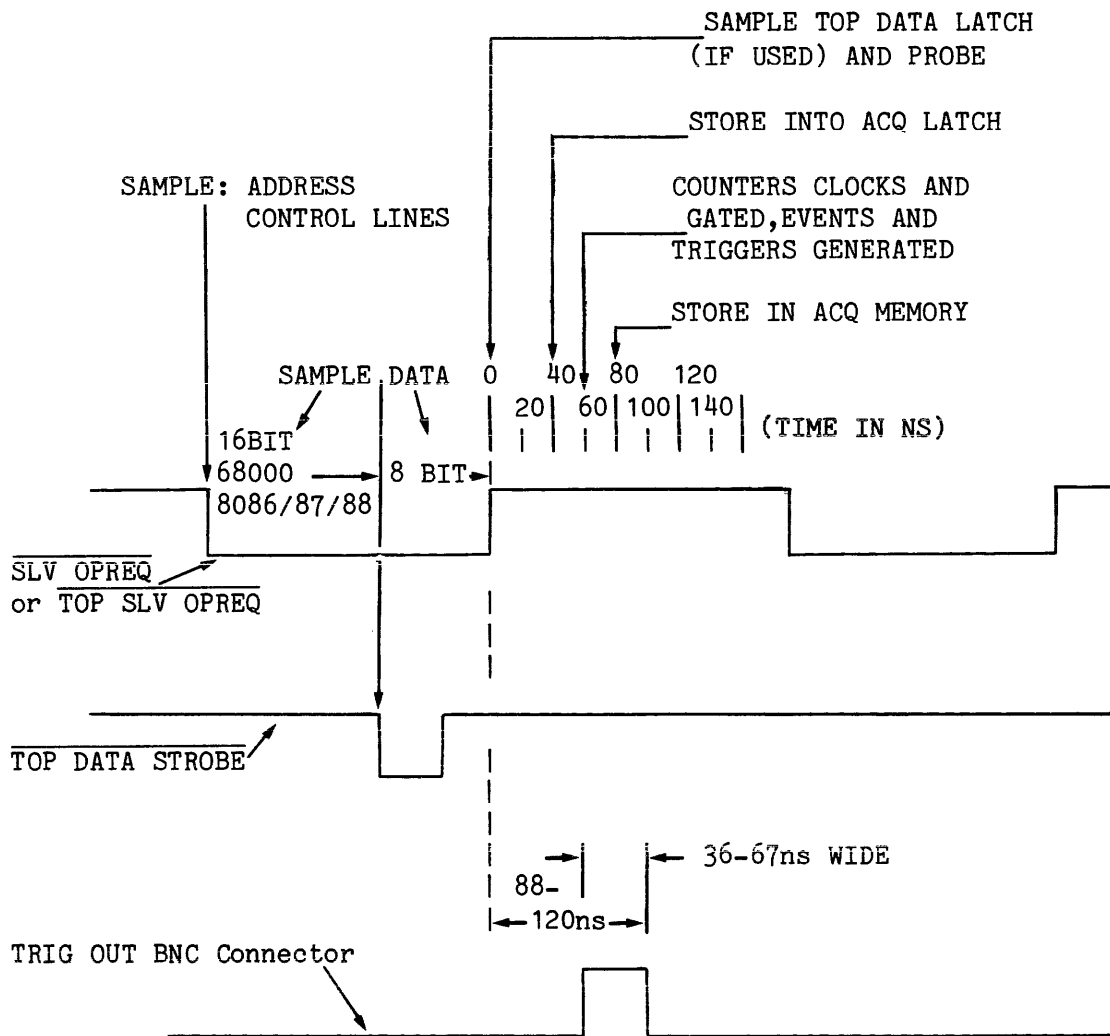

Fig. 4-1. TTA Timing Signals.
SLV OPREQ(L) is a signal generated by the active emulator and received by the TTA. This signal is the source for all timing operations when monitoring emulator bus activity. Alternatively, TOP SLV OPREQ(L) from the top plane (used by some of the newer emulators) may be used with the same timing constraints as SLV OPREQ(L). See Fig. 4-1 for TTA timing signals.